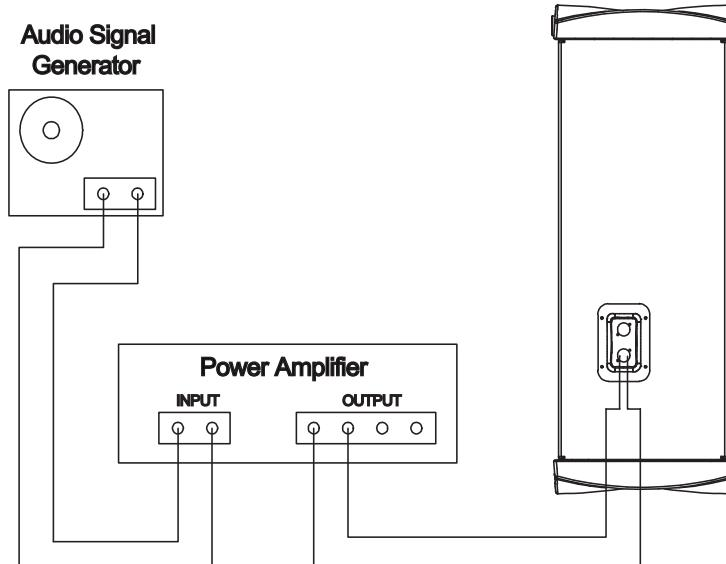

Figure 3. Panaray® MB4 Test Setup Diagram
1.1 Set up the system for test as shown in Figure 3.
4.1 Set up the system for test as shown in Figure 3.